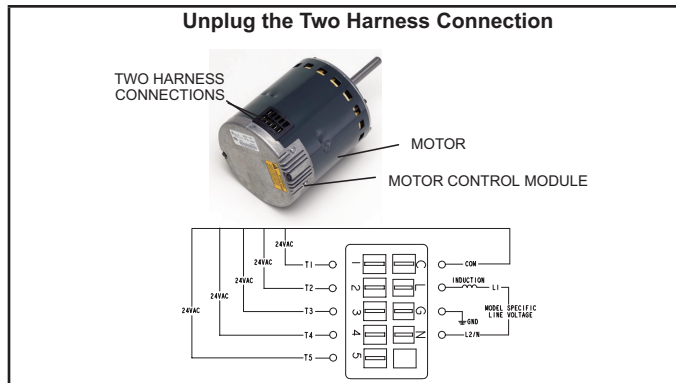

FIGURE 16
- 3 - Unplug the two harnesses from the motor control module. See FIGURE 16.